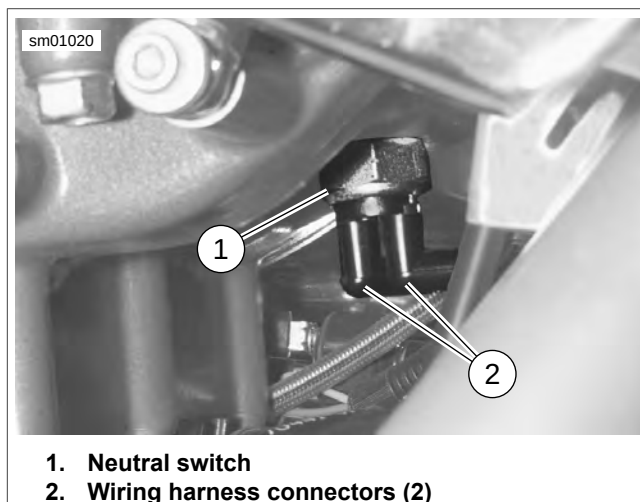

Figure 7-41. Neutral Switch Location (typical)
4. See Figure 7-41. Remove two wiring harness connectors (2) from neutral switch (1). Gently pull connectors straight off switch studs.
3. See Figure 7-41. Install wiring harness connectors (2) onto studs on neutral switch (1). Gently push connectors until they bottom out on studs.